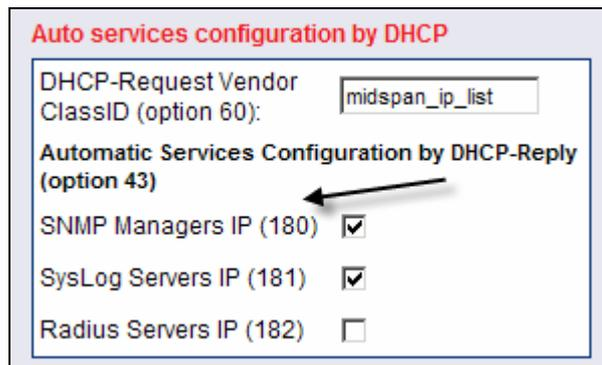

Figure 4-27: Midspan Option Code
3. Check the array checkbox. The Code field must be the same as in the Midspan (Figure 4-27).